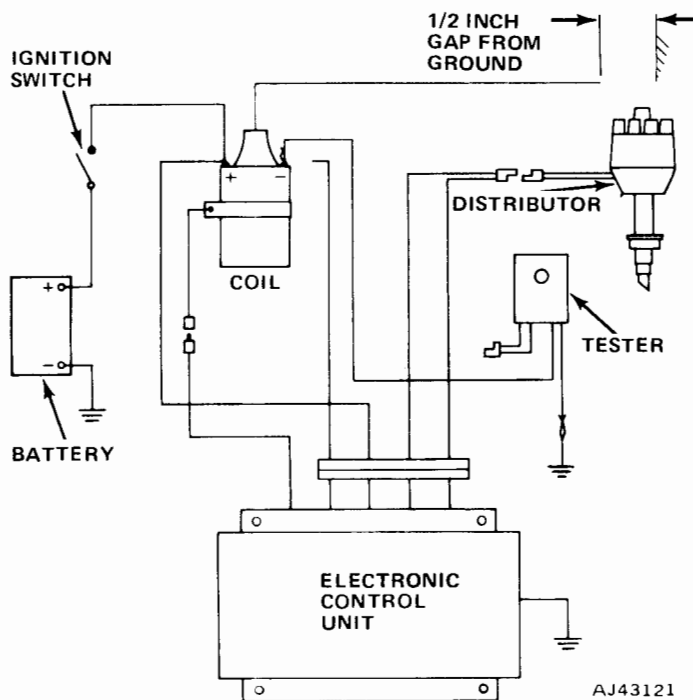

Fig. 3-55 Tester Connected to Coil Negative Terminal
(14) Disconnect wire from coil negative terminal. Connect one pulse simulator clip to coil negative terminal. Connect remaining clip to ground (fig. 3-55). Place coil secondary wire end 1/2 inch from any good